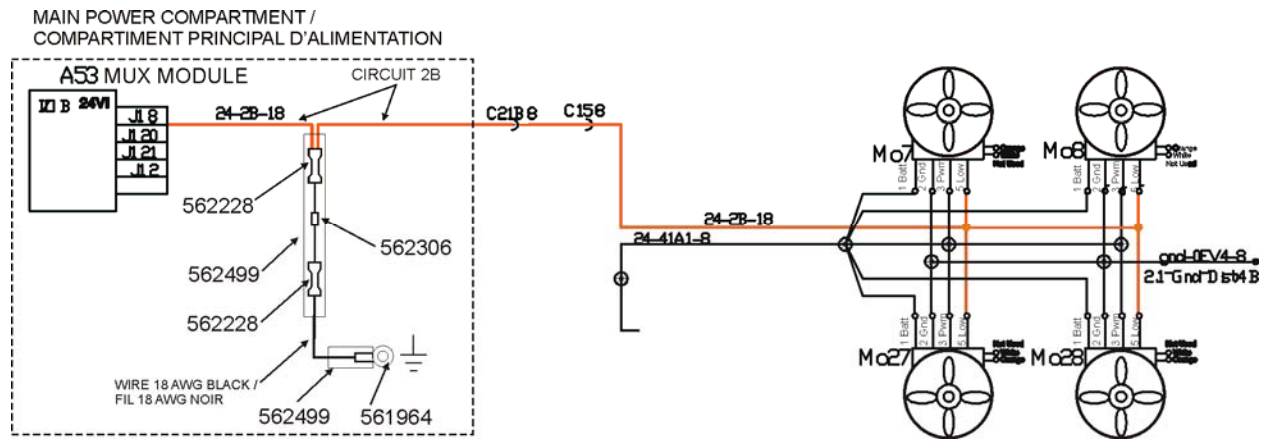

FIGURE 2
2. Inside main power compartment, add the 3650Ω resistor parallel between circuit 2B and a ground stud as per figure 2.